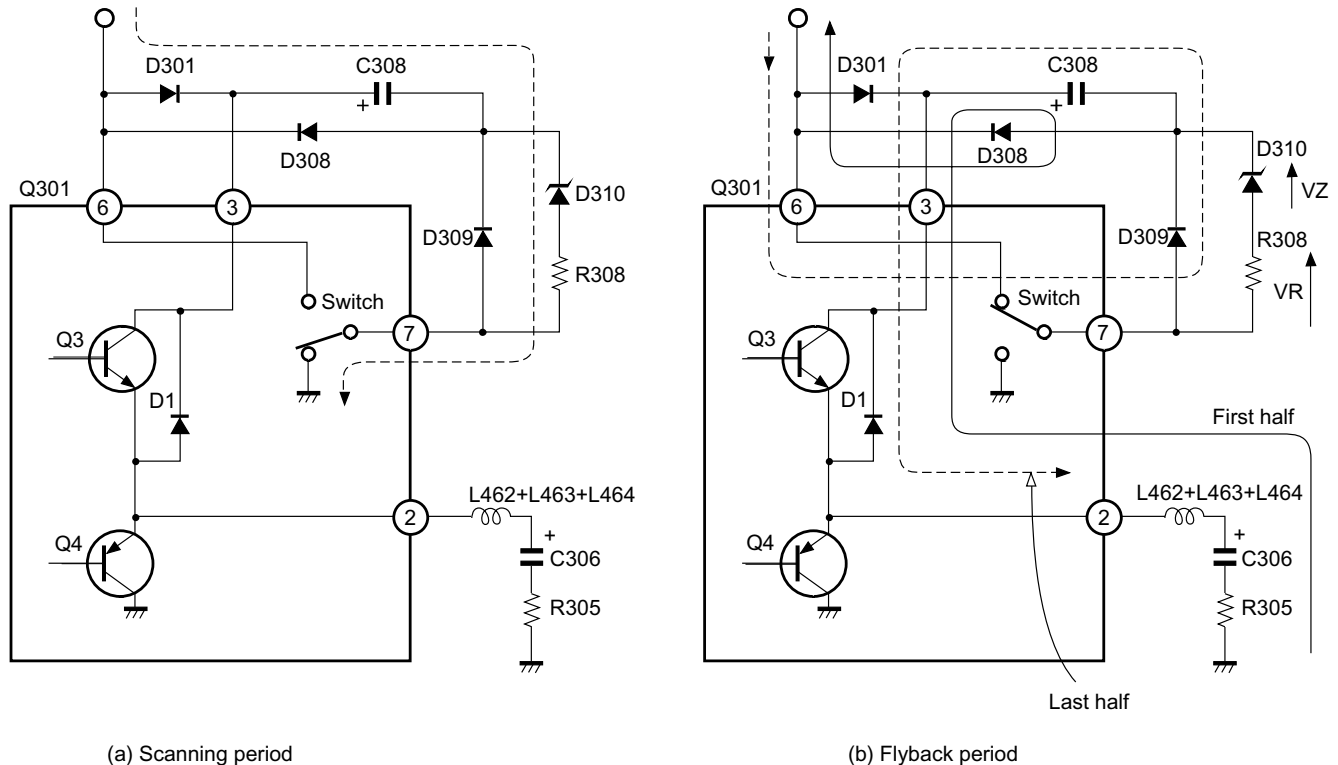

**Fig. 9-7 Output stage power supply voltage**
- (4) To decrease the collector loss of Q3, the power supply voltage is decreased during scanning period as shown in Fig. 9-7, and  $V_{CE1}$  decreases and the collector loss of Q3 also decreases.